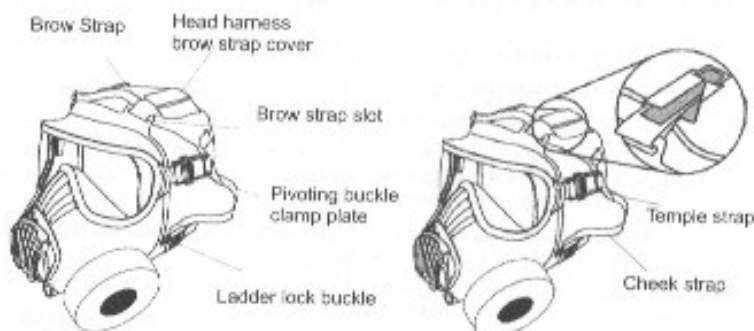

Fig 4: Harness Arrangement
(Note: The temple strap buckles are pivoting cam-lock buckles (see fig 4 & 5), which are set using the clamp plates and not adjusted for donning and doffing the respirator).
(Note: The cheek strap buckles (see fig 4 & 5) are ladder lock running buckles and are tightened and slackened every time the respirator is donned and doffed).
- Check that the brow straps are correctly adjusted and properly secured in the brow strap pockets (figure 4).